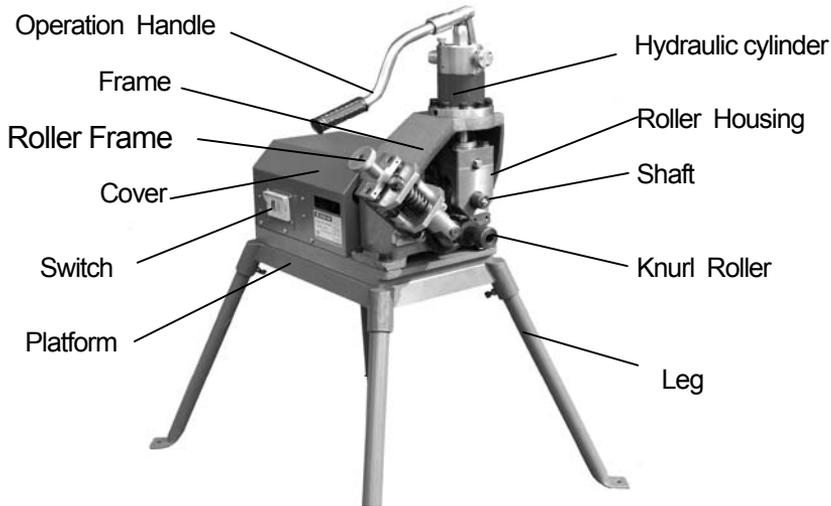

Fig.1
(See Fig.1)
4.4 The roller frame reduces swing roll groove pipe process, as shown in Figure 1 Install wheel frame.